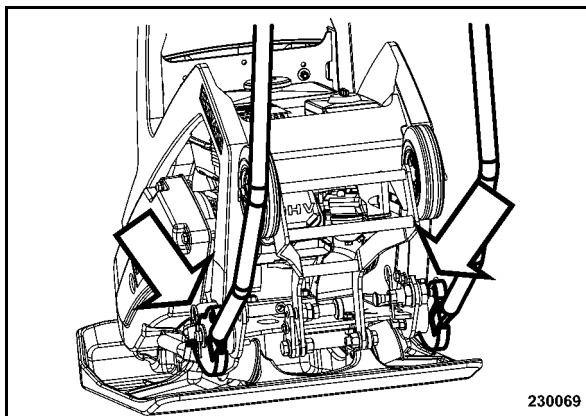

Fig. 17
- Force the steering bow (Fig. 17) apart and plug it onto the bracket.